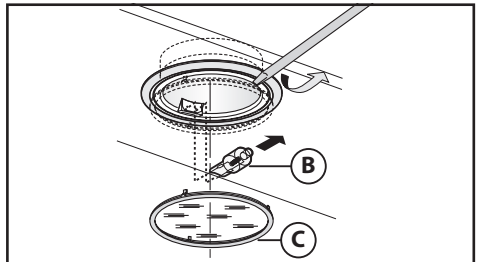

Fig.13
• Replacing halogen light bulbs (Fig.13):